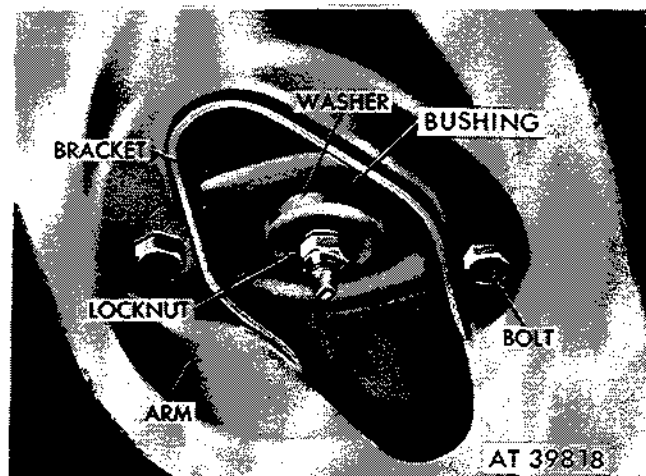

Figure 2-328. Disconnect front shock absorber lower mount.
- (1) Raise vehicle and position support under lower suspension arm.
- (2) Remove two bolts securing lower shock bracket to suspension arm (fig. 2-328).
- (6) Remove shock absorber mounting locknut, washer, and bushing if shock absorber is to be replaced (fig. 2-328).